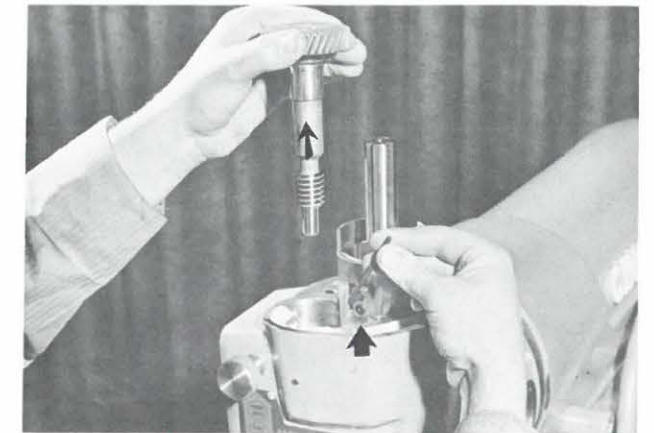

FIGURE 15A
5. Remove two set screws (163B, 162B, page 30) from side of spindle housing. Replace handle hub (190C, page 32). Rotate handle (196C) to raise sleeve (144B, page 30) and, by knocking it against driven gear (115B), force worm shaft (118B) up out of spindle housing. [See Figure 15A.] Pull out pinion shaft (183B, page 32).